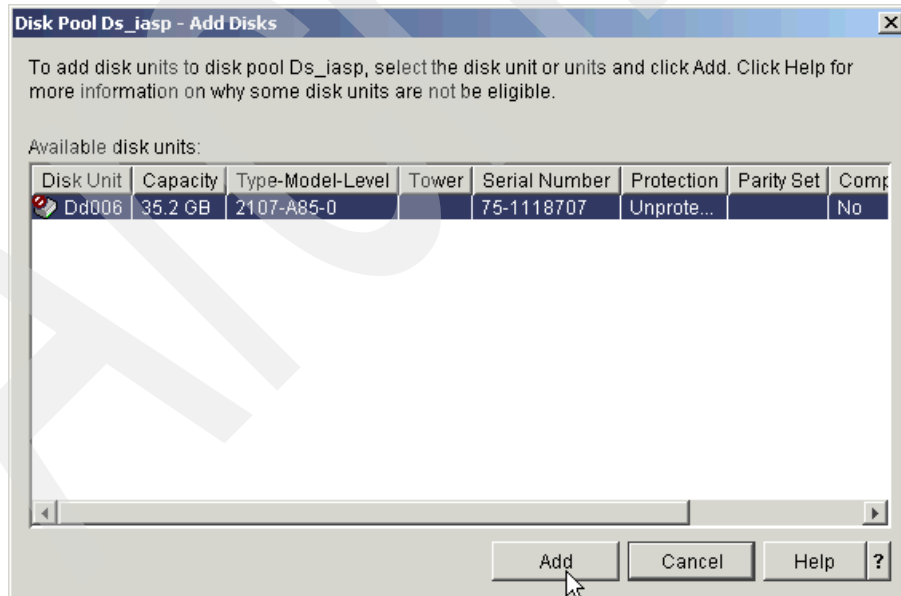

Figure 17-13 Choose the disks to add to the disk pool
- A list of non-configured units, similar to the ones shown in Figure 17-13, appears. Highlight the disks you want to add to the disk pool and click **Add**.